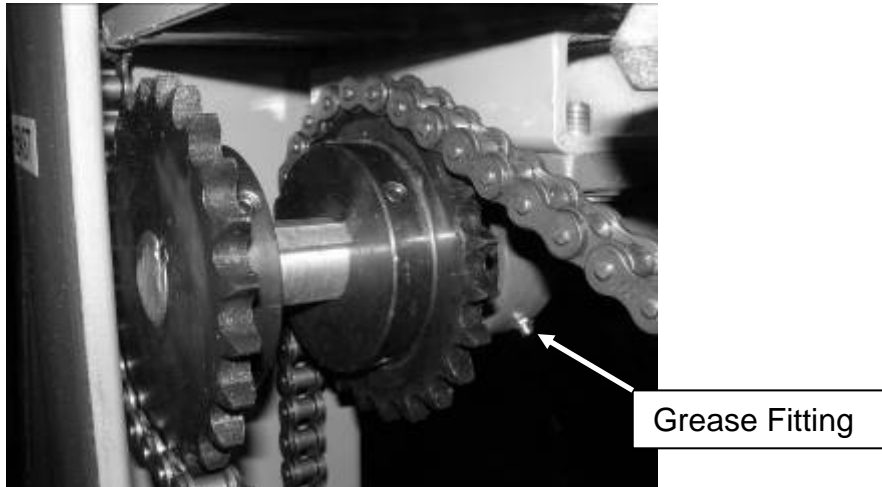

Figure 3 Shaft Bearing Lubrication – 4-Post Style Lifts
- (4-Post only) Grease the shaft bearings located beneath the lower vehicle platform at the front and rear of the lift with light grease. The grease fittings are located on each bearing housing (total six) **as shown in Fig. 3**.